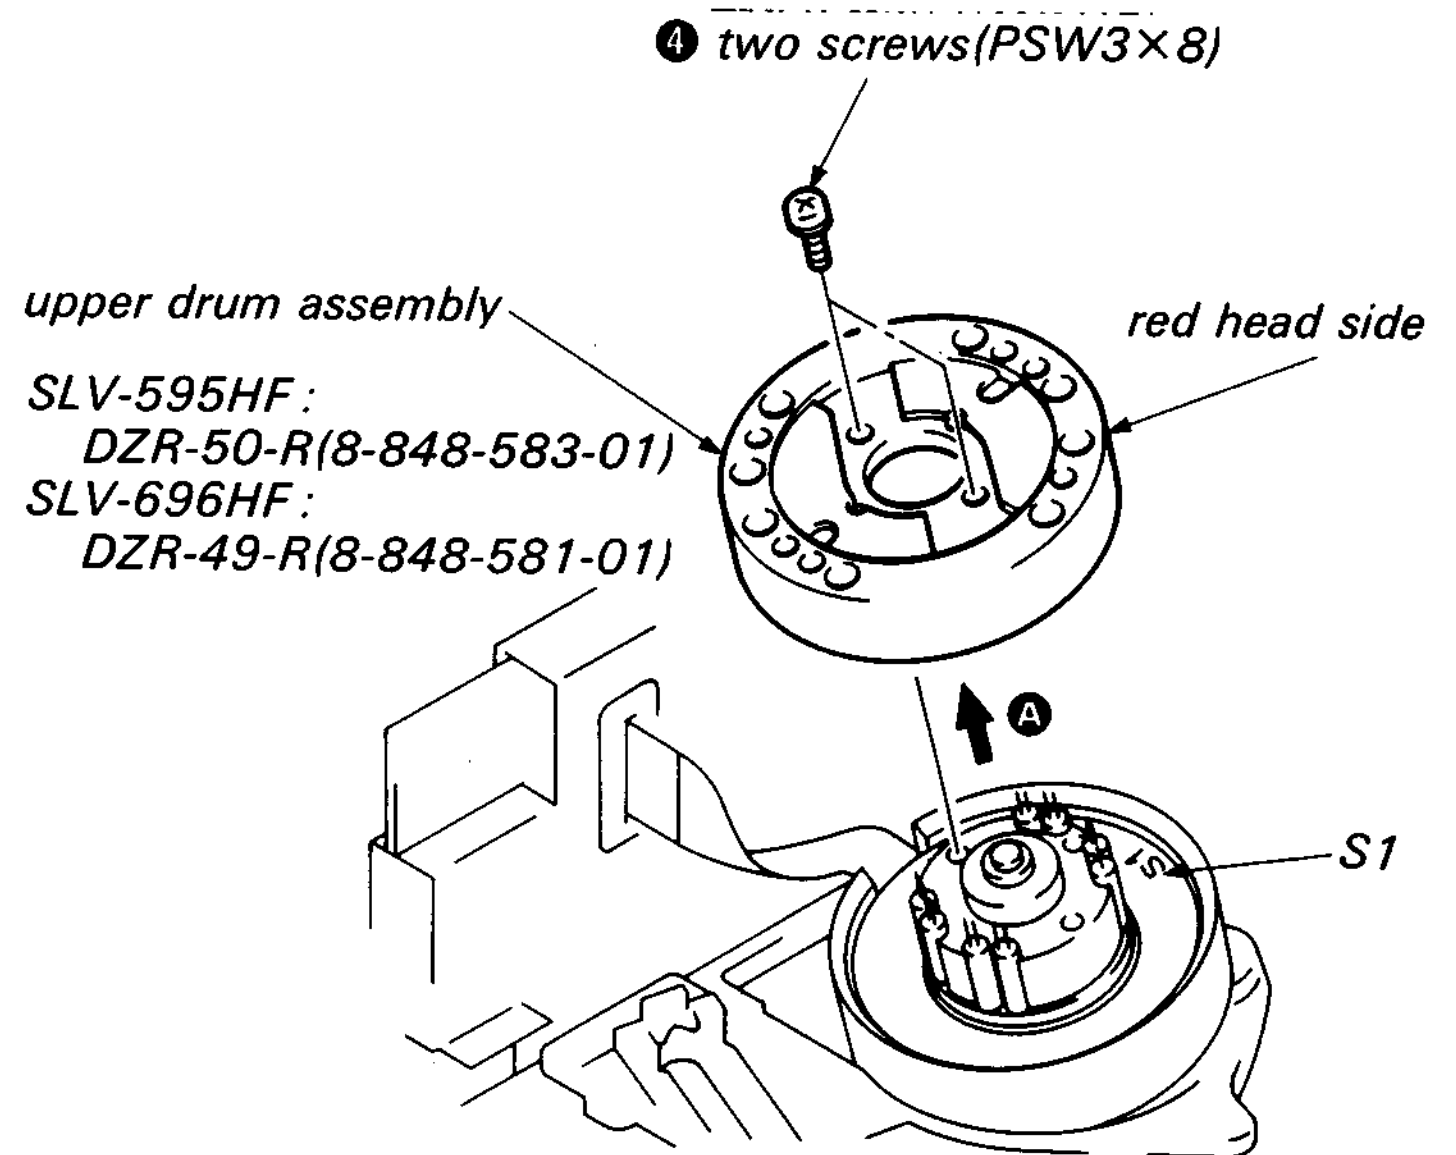

Fig. 5.
- 4) Remove two screws ❹ (PSW3×8) and take out the rotary upper drum in the arrow direction ➀. (See Fig. 5.)
- 2) Mount the rotary upper drum by aligning red head side with marked S1 of rotary transformer board(lower drum) so that the screw holes of both upper and lower drums match. (See Fig.5.)
- 4) Tighten two screws ❹ (PSW3×8). (See Fig. 5.)